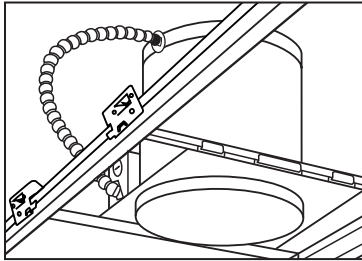

Figure 7
**Step 3.** Place fixture into position and snap bar hanger foot with integral T-bar clips onto T-bars (Fig. 7). Additional holes provided for securing with wire or screws (Fig. 7).